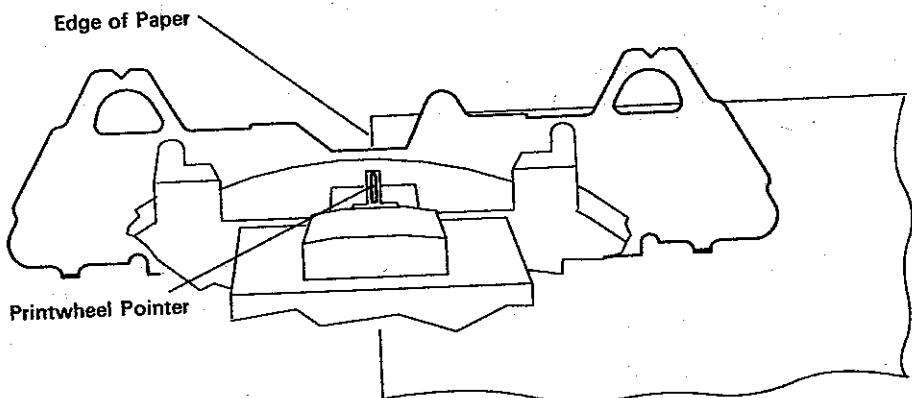

Figure 4-2.
3. Use the **J**, **↑**, **Paper Up (Micro)**, and **Paper Down (Micro)** keys to position the form with the top edge of the paper aligned with the top of the paper guide. See Figure 4-2.